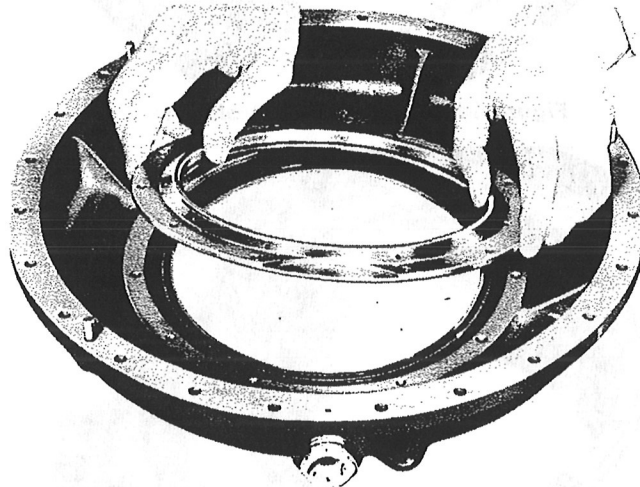

Figure 62—Removing Cover Bearing
(13) Lift the cover bearing from the cover. (See figure 62.) Thoroughly clean, dry and inspect for possible damage and defects.